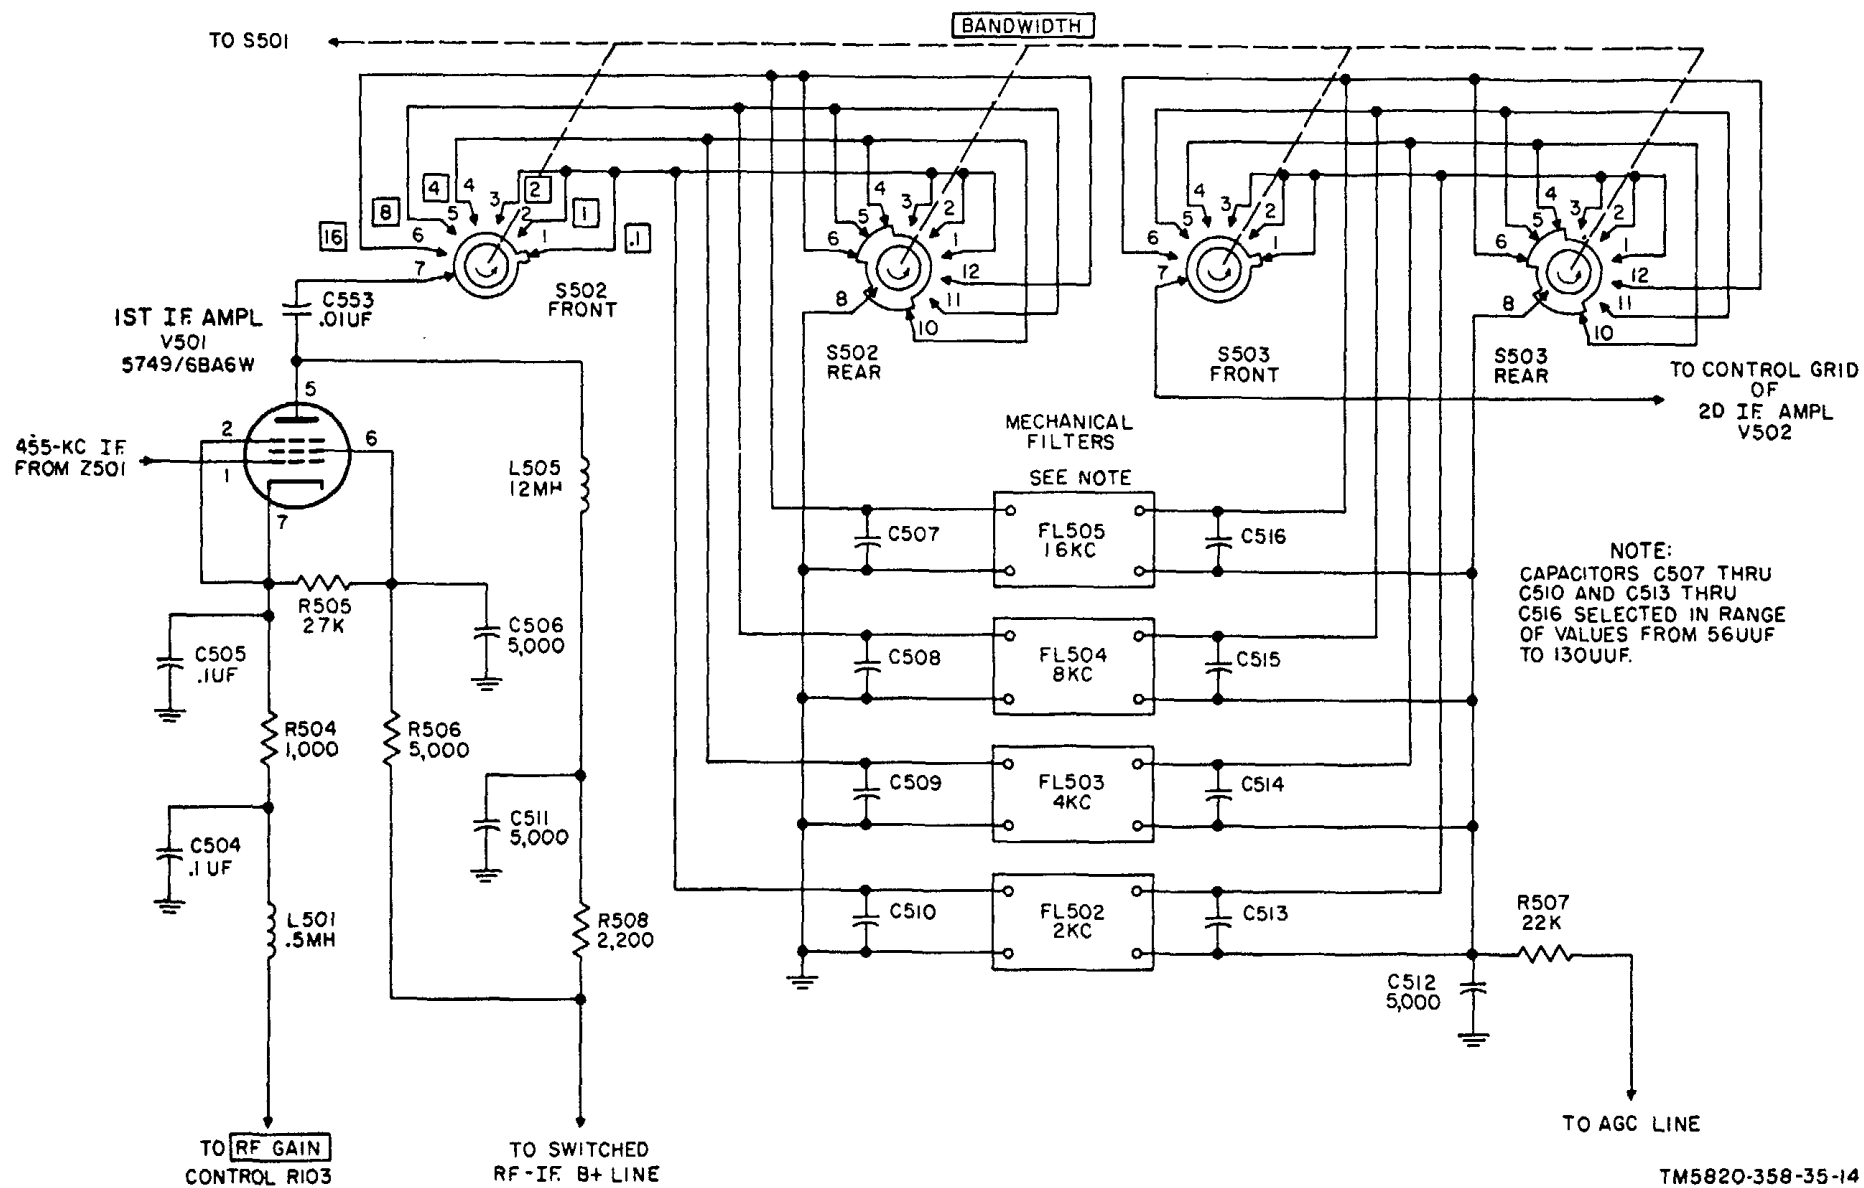

Figure 12. First if. amplifier V501, simplified schematic diagram.
#### **15. First If. Amplifier V501 and Mechanical Filters** (fig. 12)
a. The control grid of V502 is returned to the age line through S503 (front) and the selected mechanical if. filter (fig. 12). The control grid of V503 is returned to the age line through L507 of T501 and R516. The control grid of V504 is returned to ground through L511 (secondary of T502). The screen grid of V504 is fed from the switched rf-if. B+ line through the decoupling network consisting of R525 and C529. The B+ voltage for the plate circuits of V502, V503, and V504 is fed through the primary coils of T501, T502, and T503, respectively.